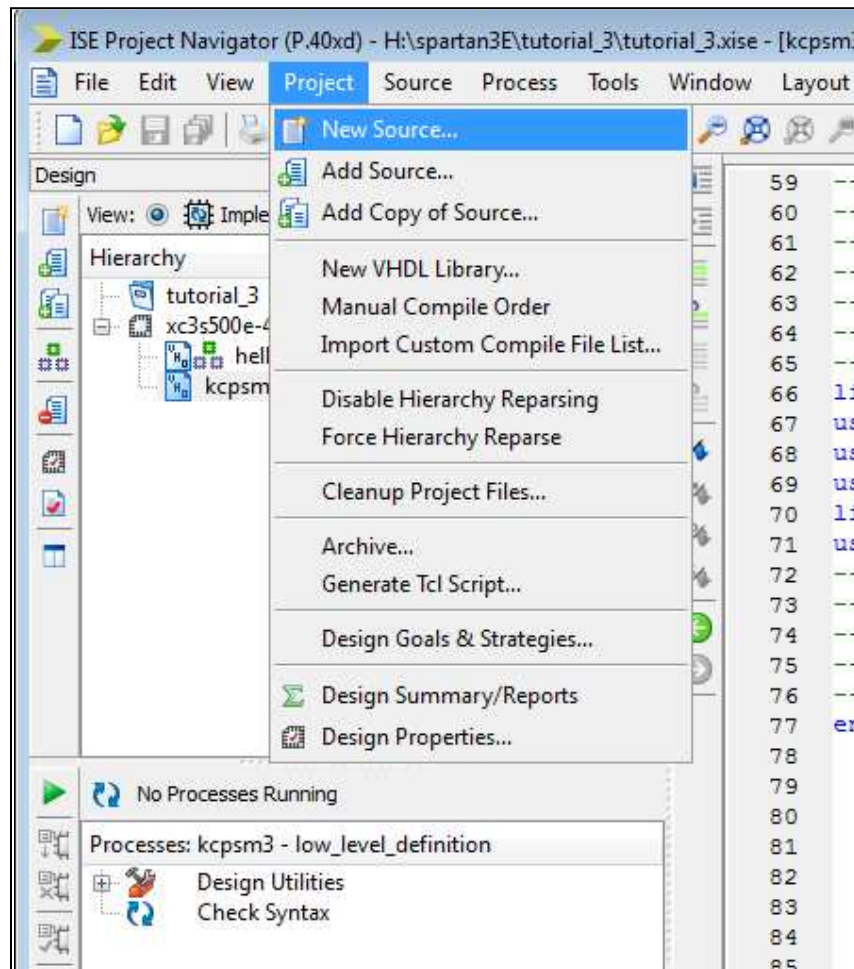

Figure 6.22: Adding a source file to the project.
1. Select **Project**→**New Source** as shown in Figure 6.22. The **New Source Wizard** will appear.